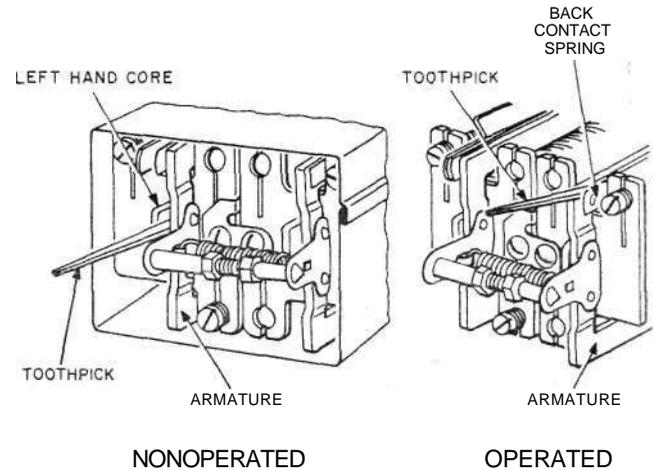

Fig. 5—Blocking C-Type Relays
**3.03 C-Type Relays:** Fig. 5—Block relays nonoperated by inserting a toothpick between the left-hand core and the armature. Block relays operated by inserting a toothpick between the back contact spring and the upper part of the right-hand armature. Take care not to insert the toothpick between the contacts.